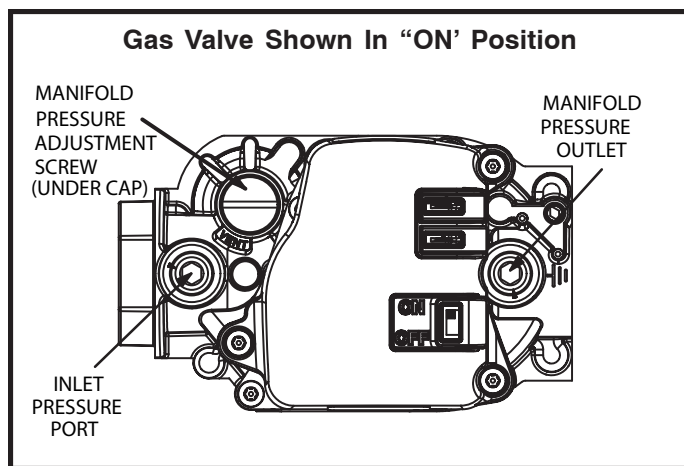

Figure 50
Gas Valve Operation (Figure 50)
6. Move gas valve switch to **OFF**. See Figure 50.
8. Move gas valve switch to **ON**. See Figure 50.